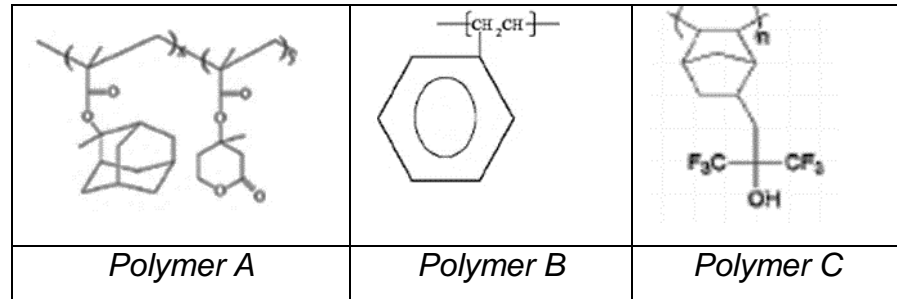

Figure 2: Structure of photoresist
- (c). Three (3) types of polymer photoresists are given in Figure 2. Assign the possible wavelength technology of 157 nm, 193 nm and 248 nm for each of the structure. Explain your choice.